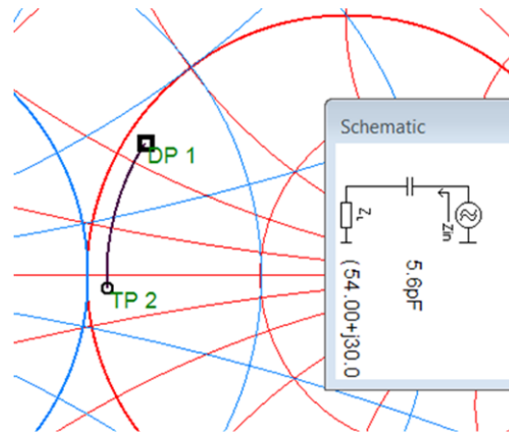

Figure 15. Matching the Low-Band With C_{LOW} : 5.6 pF and L_{LOW} : NC
- C_{LOW} : 5.6 pF and L_{LOW} : NC; see Figure 15